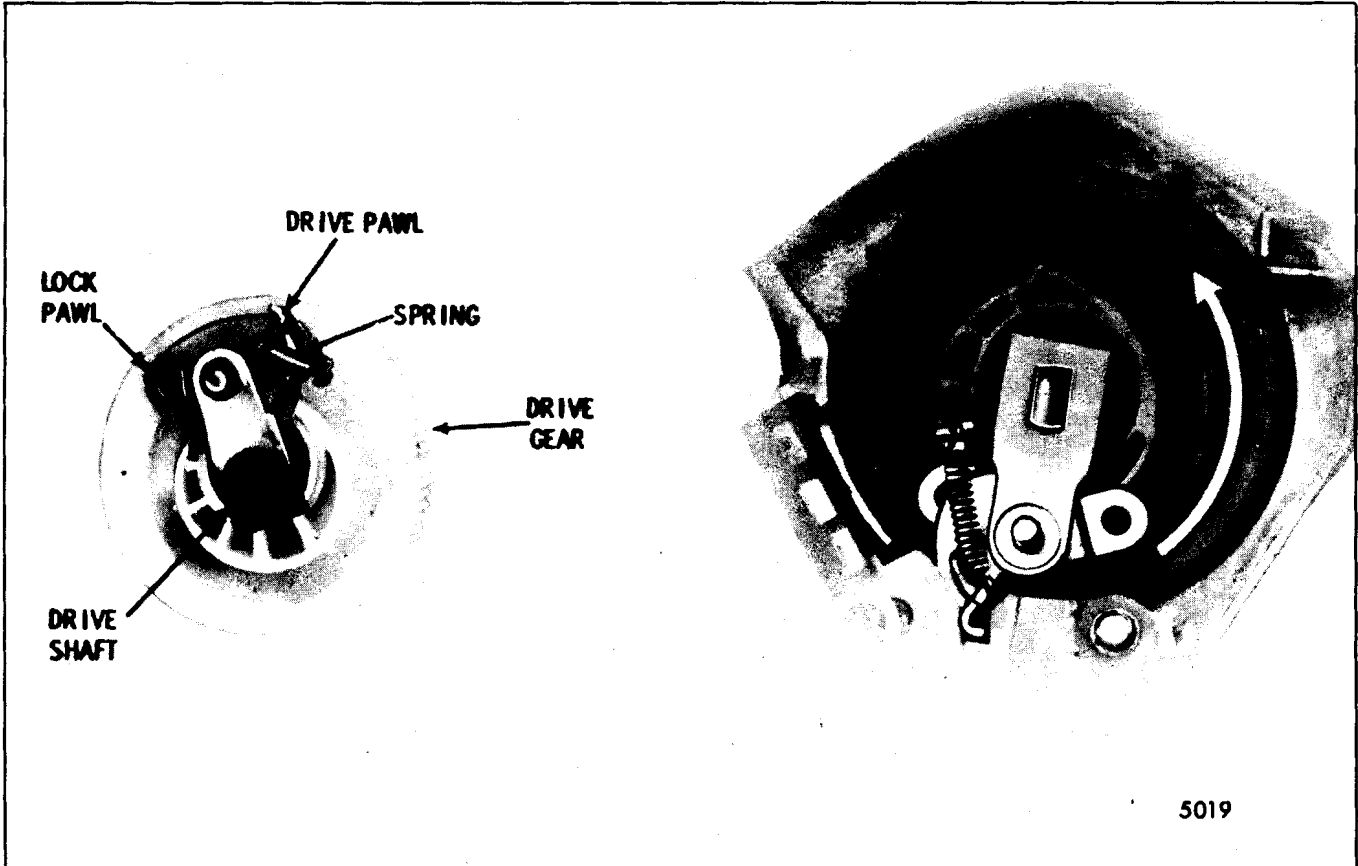

Fig. 2-44-Lock Pawl and Drive Pin Positioning
4. Holding the gear, manually rotate the drive plate in the direction of the arrow until the drive and lock pawl guide pins snap into their respective pockets in the gear (Fig. 2-44).